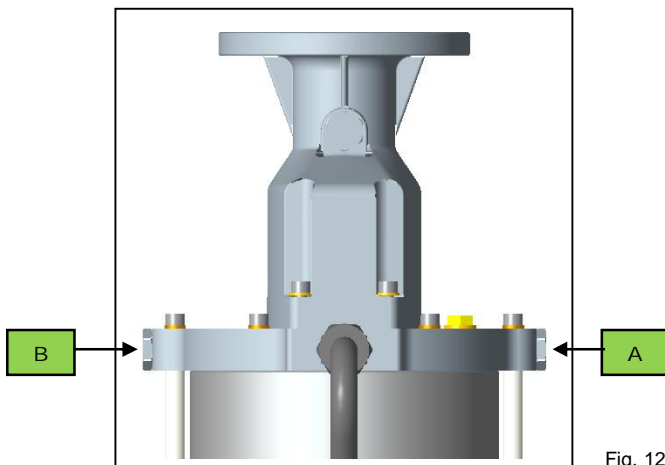
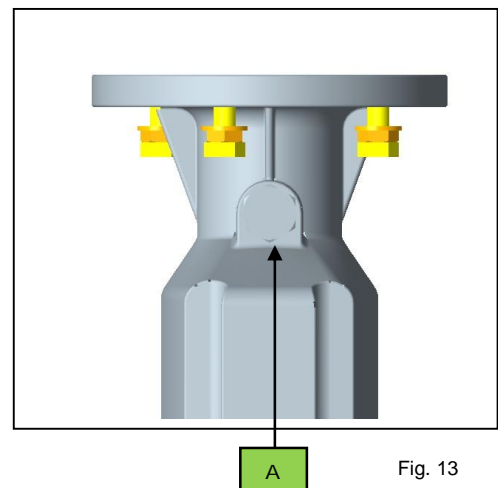

Fig. 12
Fig. 13
**Second step:** unscrew plug on the SDB-10. Depending on the position of the main air breather (SDB-14C/15 or SDB-30) unscrew the right plug (Fig.12/A) or left plug (Fig.12/B). Unscrew the plug on the main air breather (Fig.13/A).